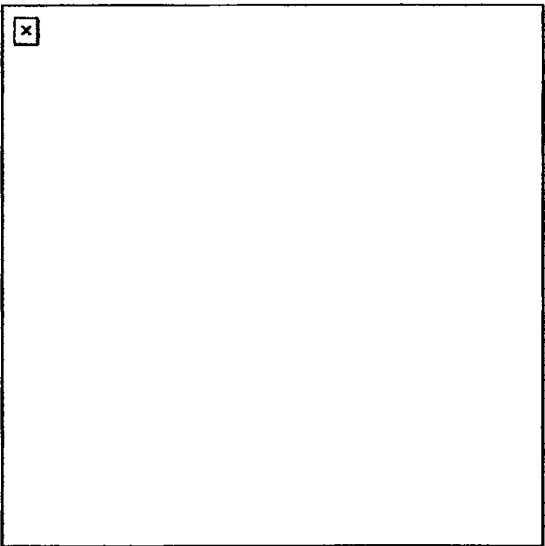

Figure 4. Link belt in feed tray.
6. Place the link belt in the feed tray with the first round against the cartridge stop and hold the belt in place. Close the cover assembly (Figure 4).